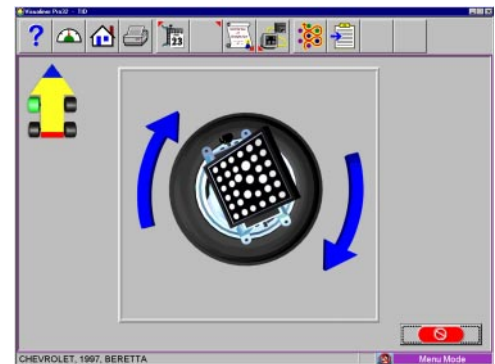

Figure 3-48
9. After the readings have been taken the screen instructs with arrows indicating to rotate the wheel and target back 90°. (Figure 3-48) This 90 degrees is from the first 25° forward, rotate the tire back until a stop sign appears as in step 8 and hold the wheel steady as another reading will be taken.